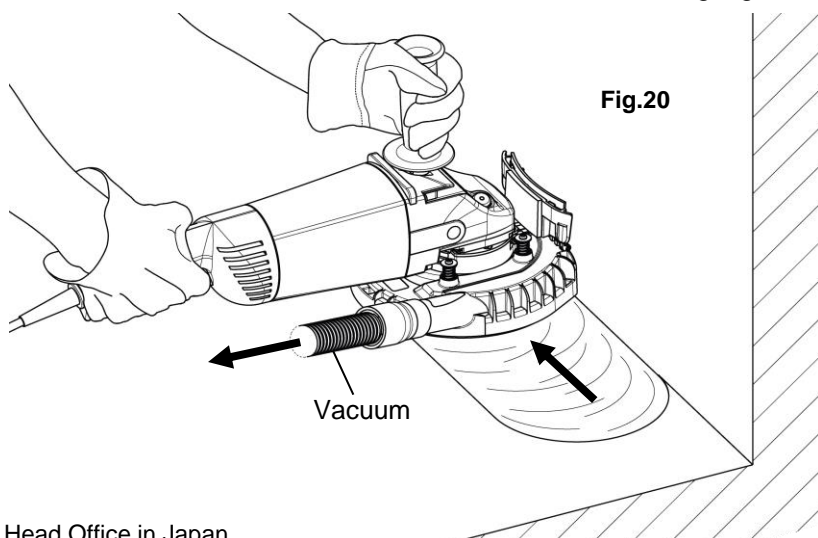

Fig.20
6. Place [a] Main Body on the material and slowly move toward the grinding direction along the wall. (Fig.20)